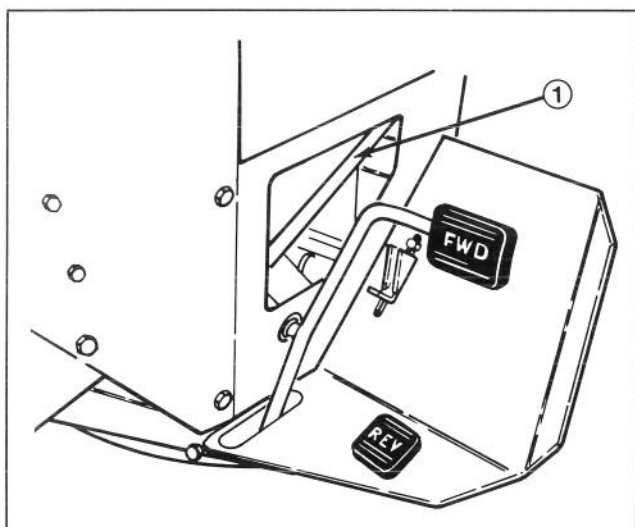

Figure 41
2. Loosen jam nuts on each end of traction rod (Fig. 41).